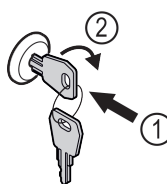

Fig. 86 Example illustration
- Insert key Fig. 86 (1).
- Turn key clockwise by 90° Fig. 86 (2).